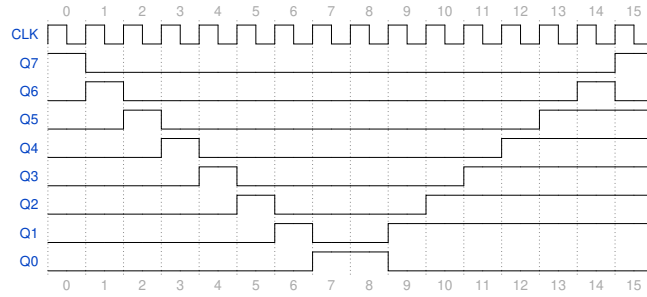

Figure 4: A waveform that repeats every 16 clock periods.
1. Consider the timing diagram in Fig. 4. Using any combination of *shift registers* and supporting gates, create a circuit with 8-outputs that produces this timing diagram.